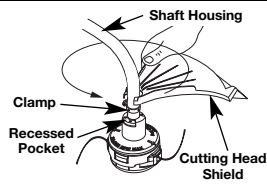

Fig. 1
1. Place the cutting attachment shield onto the shaft housing above the clamp assembly (Fig. 1).